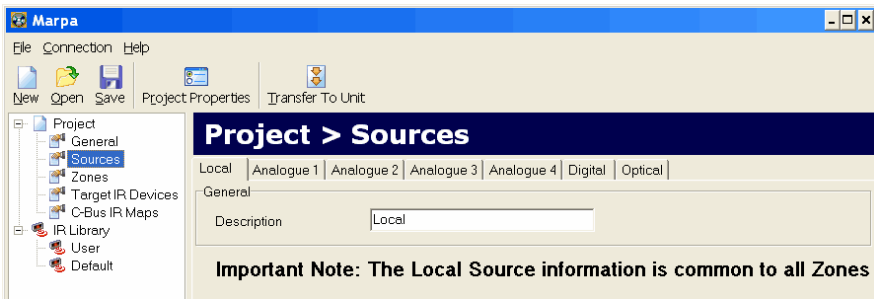

Figure 42 – The Local tab of MARPA's Sources branch
- 4) Select the Sources branch of the Project tree. The Local source tab is selected (Figure 42). The Description of the Local source can be changed here. Its default is “Local”. The Description is displayed on the Matrix Switcher LCD when the source is selected. It is also displayed as the label for the source selection control group on a C-Bus DLT wall switch if DLT labelling is enabled.